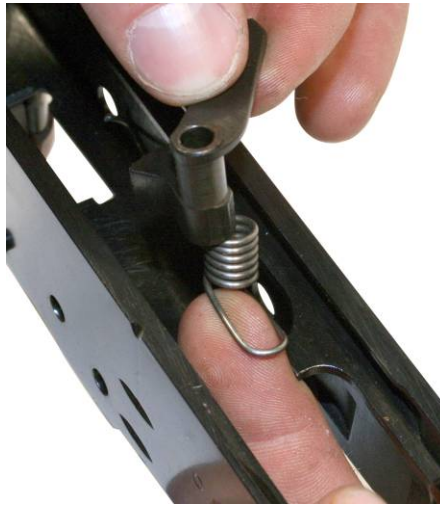

Figure 25. Removing the Auto Sear and Auto Sear Spring from the Receiver.
- m. Remove the auto sear and auto sear spring from the receiver. Refer to Figure 25.